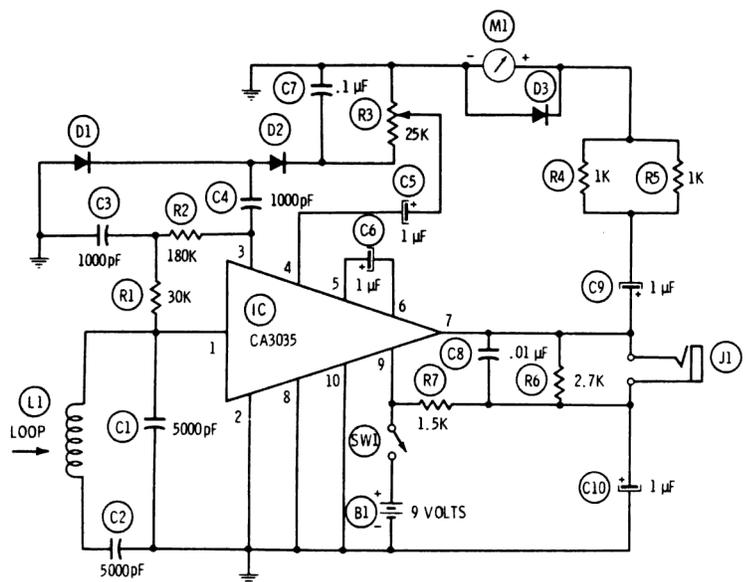

Figure 3: Receiver circuit.
**Receiver** - The receiver circuit (Fig. 3) is designed around a very high-gain, linear IC that contains three separate high-gain amplifiers. When connected in a cascade amplifier configuration, the IC has a gain of 129 dB.